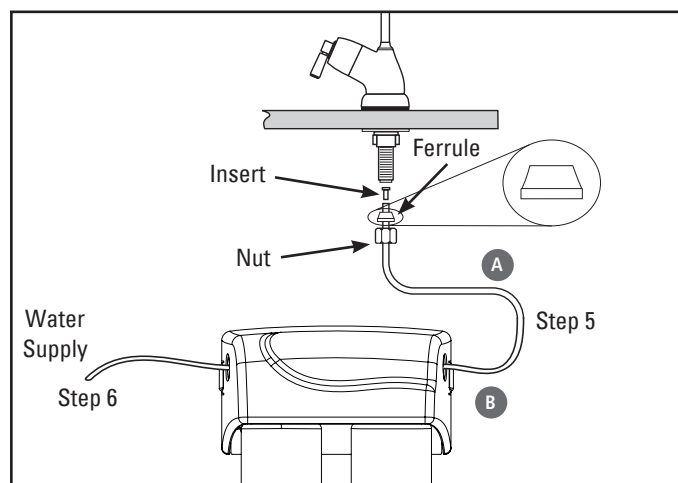

Figure 5
- A) Determine the length of plastic tubing needed to connect the outlet (right) side of the filter with the faucet. Be sure to allow enough tubing to prevent kinking and cut the tubing squarely. Use a marker to mark one end of the tubing 3/8-inch from the end (Figure 5). Put the tubing insert into the tube. Slide the nut over the tubing. Slide the ferrule over the tubing. Wet the tubing end. Push it into the bottom of the faucet stub up to the mark. Slide the ferrule up. Slide the compression nut up and screw it to the faucet. Tighten until slight resistance is felt.
- B) Mark the remaining end of the tubing. Use a marker to mark 5/8-inch from the end. Wet the end of the tube. Insert the end into the white collar fitting on the outlet side (right) of the system. The tube should go in up to the mark (Figure 5).